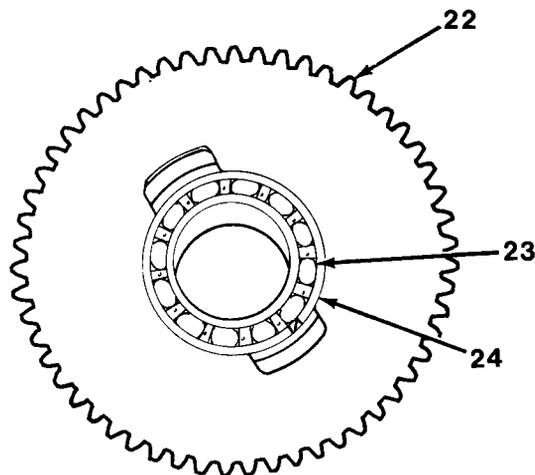
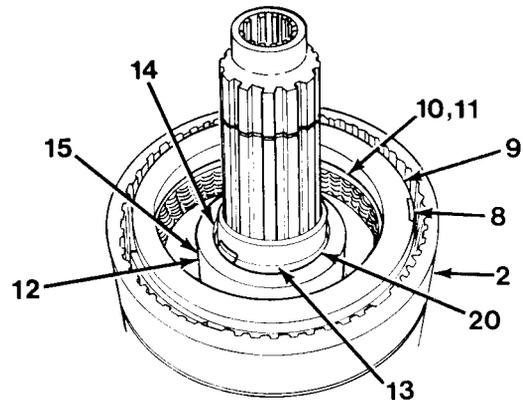

Figure 11-9
Figure 11-10
20. Open snap ring (24) to remove bearing (23) from gear and hub welded assembly (22, Figure 11-9).
21. Remove bearing (23) from gear and hub welded assembly (22).
22. Remove snap ring (24), if inspection proves necessary, from gear and hub welded assembly (22).
23. Remove snap ring (20) from clutch shaft assembly (2, Figure 11-10).